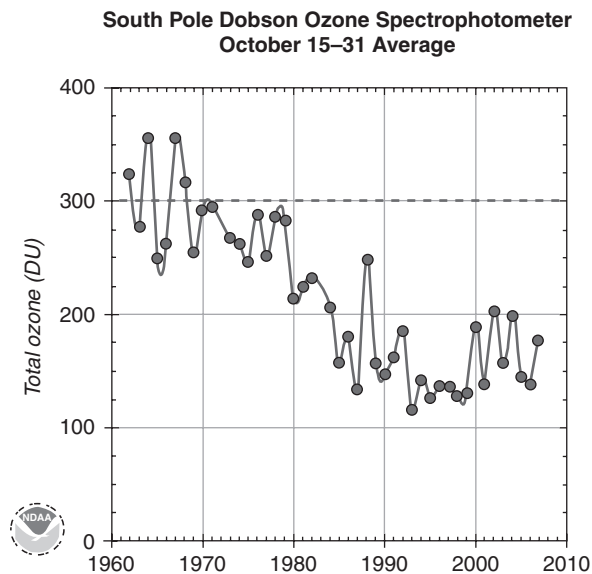

Figure 8.4
- It is over the continent of Antarctica that the largest amount of ozone depletion is seen. Up to 60% of the ozone disappears over some parts of Antarctica during its spring (September–October). Figure 8.4 shows (in Dobson units¹⁴) the stratospheric ozone concentration over the continent starting in the 1960s. Ozone measurements are made both from satellite-based and ground-based instruments, making it possible to map the region where depletion is occurring.
▪ Average ozone loss continued to increase through the 1980s. In the 1990s, average values of ozone were 40–50% below the normal of 300, reaching values, for a week or so each year, as low as 70% below normal.¹⁶ Ozone levels were still well below normal in 2008 (Figure 8.4).